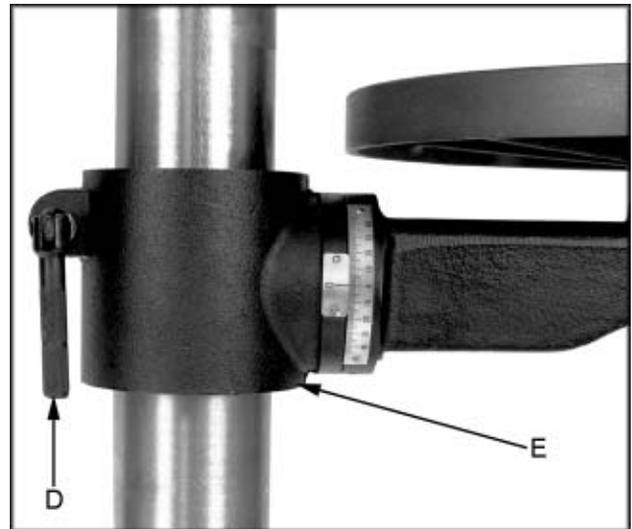

Fig. 2
3. Thread lock handle (D, Fig. 2) into the table bracket (E, Fig. 2).